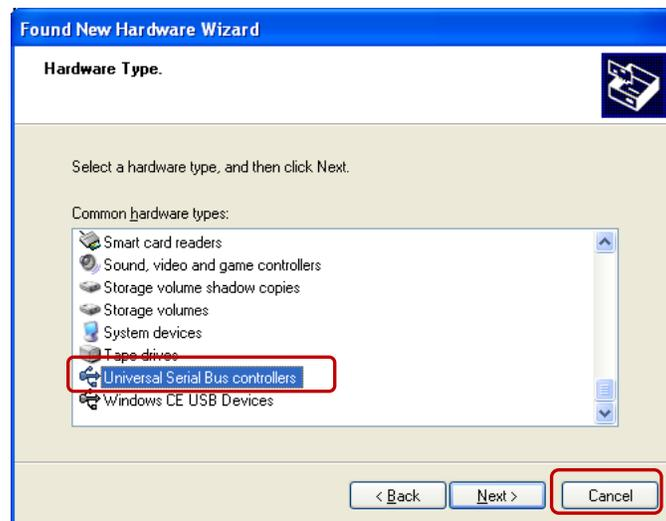

Fig. 8
**\*Note:** If a “Hardware Type” screen comes up as shown in Figure 8, select > **“Universal Serial Bus controllers”**. Then click > **“Next”**.